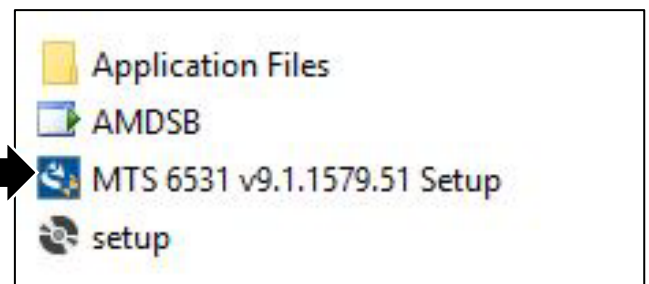

Figure 2
3. Go to your "AMDS Software" folder and click the latest version of the "MTS 6531 Setup.exe" software setup file (refer to Figure 2).